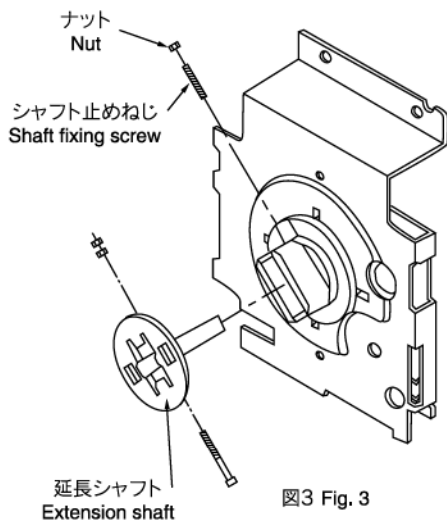

図3 Fig. 3
- ・(2)でキーパーの取付け終了したシャフトを、シャフトホルダーの角穴に差し込んでください。(図3)
(3) Mounting the extension shaft
- ・ Set the shaft to which the keeper was attached in (2) to the shaft guide on the drive unit to mount it in the shaft holder. (Fig. 3)